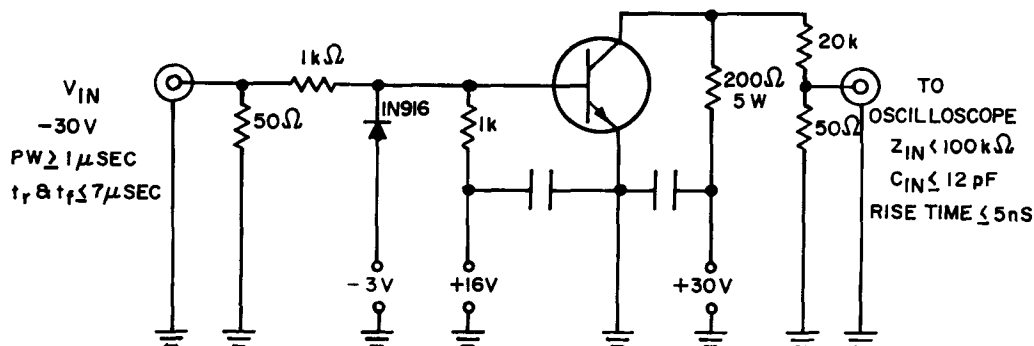

FIGURE 2. TEST CIRCUIT FOR DETERMINING TURN-OFF TIME
- ($I_C = 150mA, V_{CC} = 30V, I_{B1} = -I_{B2} = 15mA$, Figure 2)